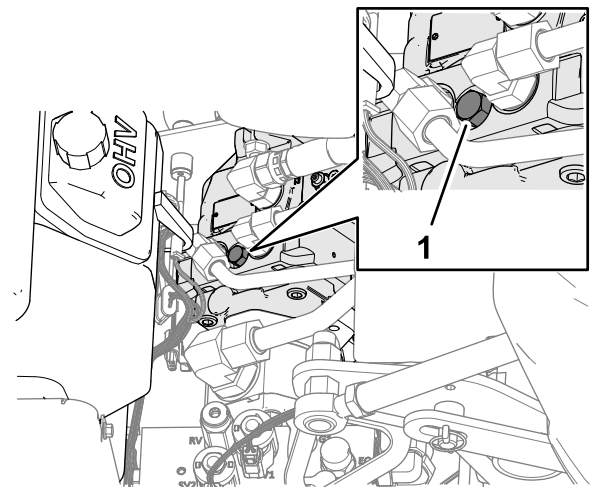

Figure 127
- Locate the cover for the bypass-valve screw between the engine and hydraulic pump as shown in Figure 127.